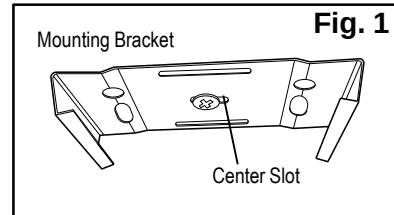

Fig. 1
2. Screw the **ceiling anchor** into the center slot outline. Then align the **mounting bracket** to the **ceiling anchor** and screw in the **mounting screw**. Repeat with the second **ceiling anchor** 88.625 inches away. (Fig.1)